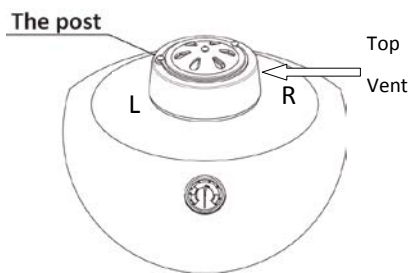

Figure 6
**STEP 8** Close the grill dome and place the 304 stainless steel top vent on top of the dome neck. Turn the top vent base to make sure the post of the top vent is on the left side. This will prevent the dampers from sliding when the dome is opened. (See Figure 6)